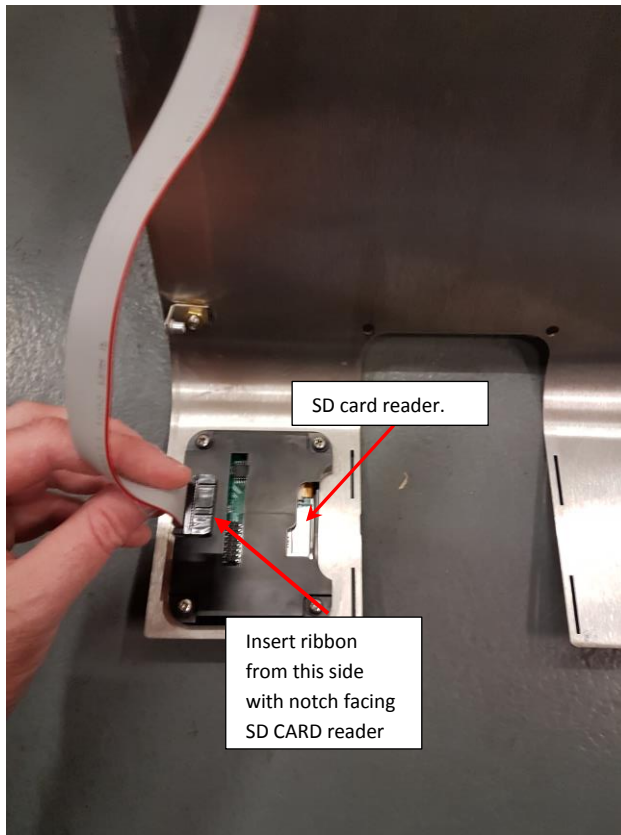

Fig 3.0a
- Remove the touchscreen by removing the 4 securing screws, Fig 3.0a
- Insert the new touchscreen ensuring correct way up, Fig 3.0a. The SD card slot should be facing towards centre of machine the cup surround as per Fig 3.0a
- Connect the 16 pin ribbon provided in the kit to the main PCB board and the new touchscreen. The ribbon must be inserted the correct way on the PCB board. Use the location peg for the correct orientation on the PCB and see **Fig 3.0a & Fig 3.0b** for the correct orientation of the ribbon on the touchscreen.
- Now insert the ribbon cable 16 pin onto the new Touchscreen, again ensure the orientation is correct. See Fig 3.0a. & Fig 3.0b